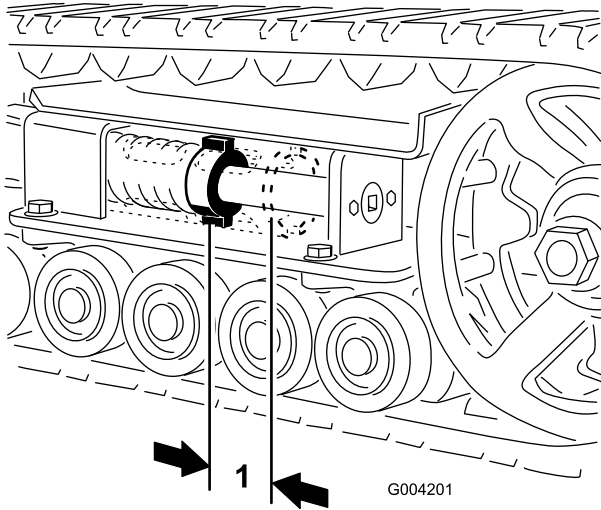

Figure 37
Check and adjust the track tension after the first 50 operating hours and every 100 operating hours thereafter. There should be 2-3/4 inches (7 cm) between the tension nut and the back of the tension tube (Figure 37). If not, adjust the track tension using the following procedure:
back of the tension tube (Figure 37) is 2-3/4 inches (7 cm).
11. Turn the tensioning screw counter-clockwise until the distance between the tension nut and the back of the fork tube (Figure 37) is 2-3/4 inches (7 cm).
17. Turn the tensioning screw counter-clockwise until the distance between the tension nut and the back of the tension tube (Figure 37) is 2-3/4 inches (7 cm).